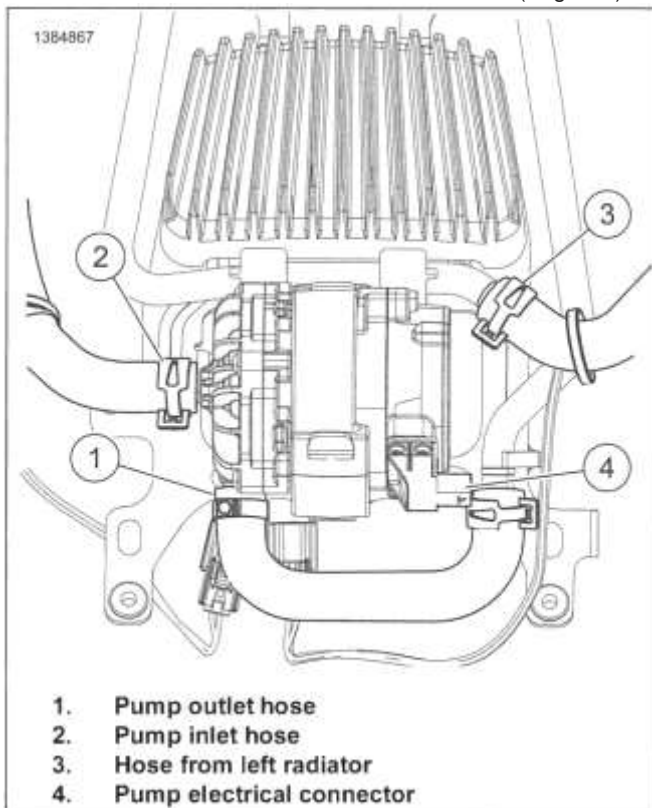

Figure 7-6. Drain Cooling System
5. See Figure 7-6. Disconnect hoses (1,2) from pump.
6. Disconnect hose (3) from right coolant downtube. Lower hose to drain.